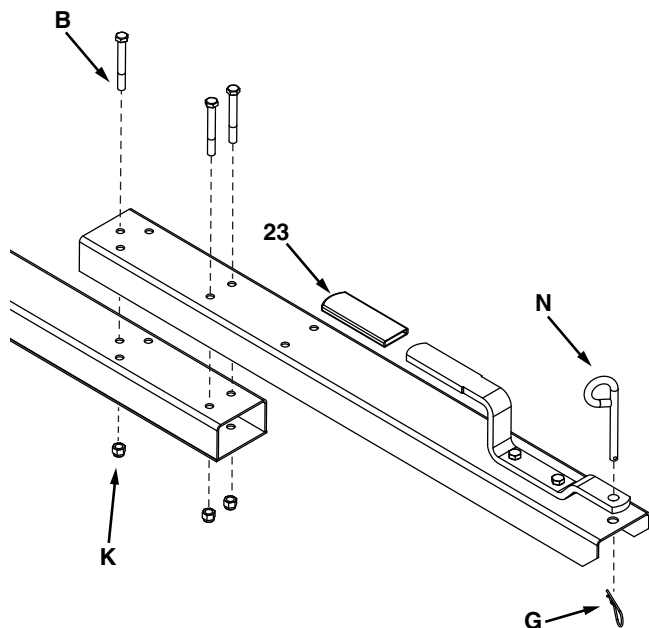

FIGURE 1
- Assemble the front tongue on top of the rear tongue using three 3/8" x 3" hex bolts (B) and 3/8" nylock nuts (K). See figure 1.
- Install the hitch pin (N) and the hair cotter pin (G) in the hitch bracket and front tongue. Slide the handle grip (23) over the handle. See figure 1.